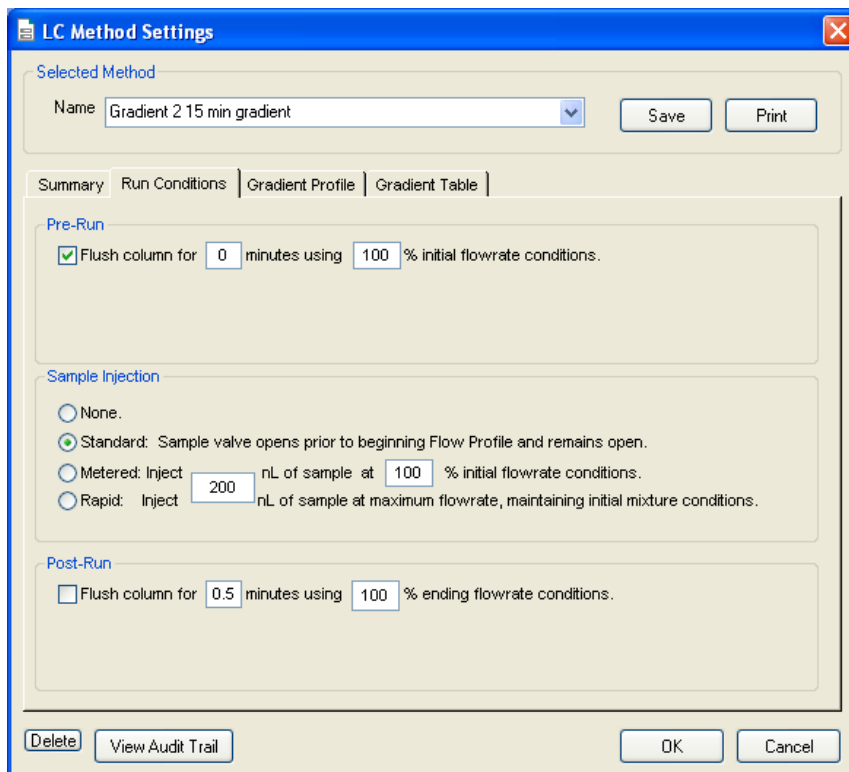

Figure 4-13 LC Method Settings Dialog—Run Conditions Tab
4. Click the **Run Conditions** tab in the **LC Method Settings** dialog to obtain the Run Conditions tab (Figure 4-13).